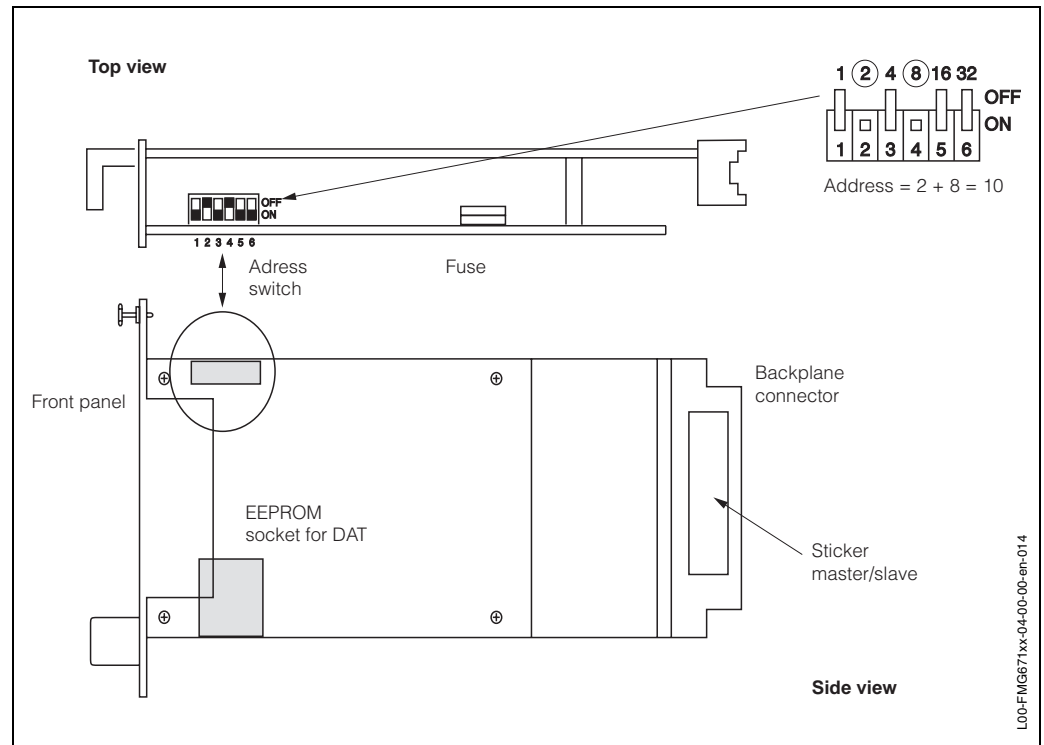

Fig. 2.17 Position of configuration elements on Gammasilometer FMG 671 card
Fig. 2.17 shows the configuration elements on the Gammasilometer FMG 671 plug-in card.
- When on, each switch is assigned the value shown in Fig. 2.17, inset.